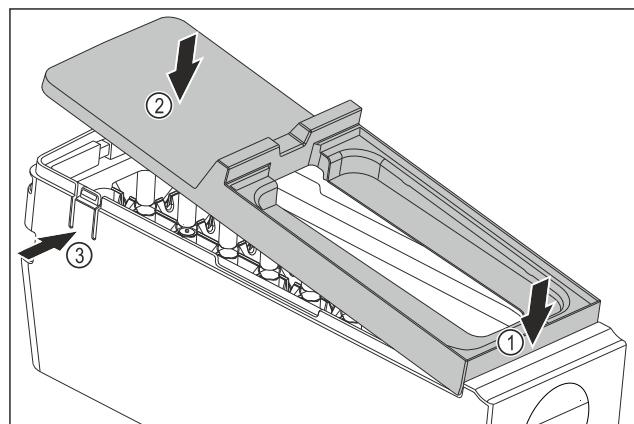

Fig. 161
- ▶ Installing the EasyTwist-Ice body cover: Place the cover on the front. Fig. 161 (1)
- ▶ Lower the cover at the rear. Fig. 161 (2)
- ▶ The cover locks into both tabs Fig. 161 (3) audibly.